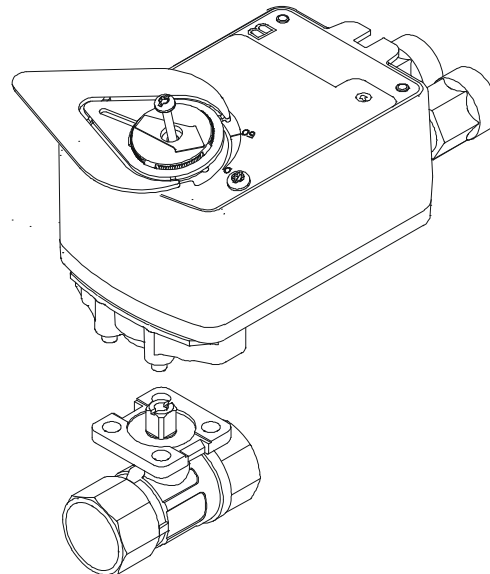

Figure 17: Mount the Actuator
6. Install the actuator on the ball valve (Figure 17). Tighten the actuator mounting screw to a torque of 10 to 12 lb-in (1.1 to 1.4 N-m) and snap the large adjustable pointer into place.